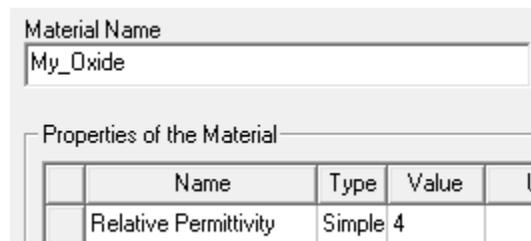

Figure 5. View/Edit Material dialog
- 4 Click **Add Material** and edit the fields as in Figure 5.